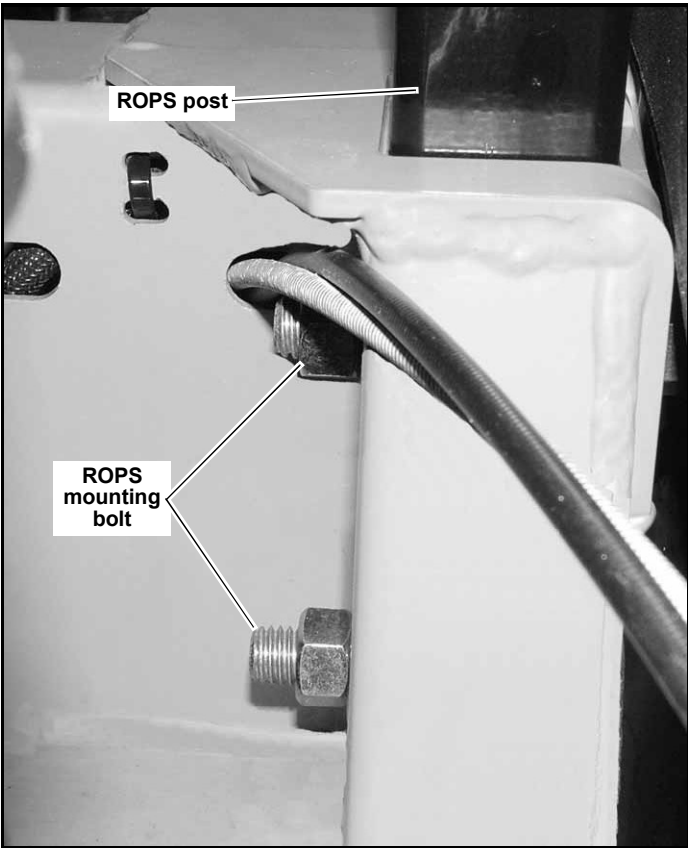

Figure 3-7
- 1. Check the torque of the ROPS mounting bolts. Tighten the bolts to the correct torques as shown below if necessary. Figure 3-7